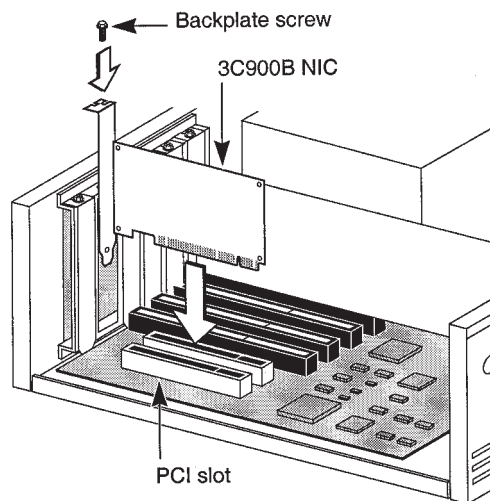

Figure 1-2 Installing the 3C900B NIC
- 3 Locate an available bus-mastering PCI slot and remove the screw from the corresponding backplate (Figure 1-2). Save the screw.**
Many PCs have both ISA and PCI slots. Make sure that you install the NIC only in a bus-mastering PCI slot. See Figure 1-2. PCI slots are usually white, and they are shorter than ISA slots.
- 5 Ensure that the shape and length of the edge connector on the NIC match the slot that you intend to use (Figure 1-2).**